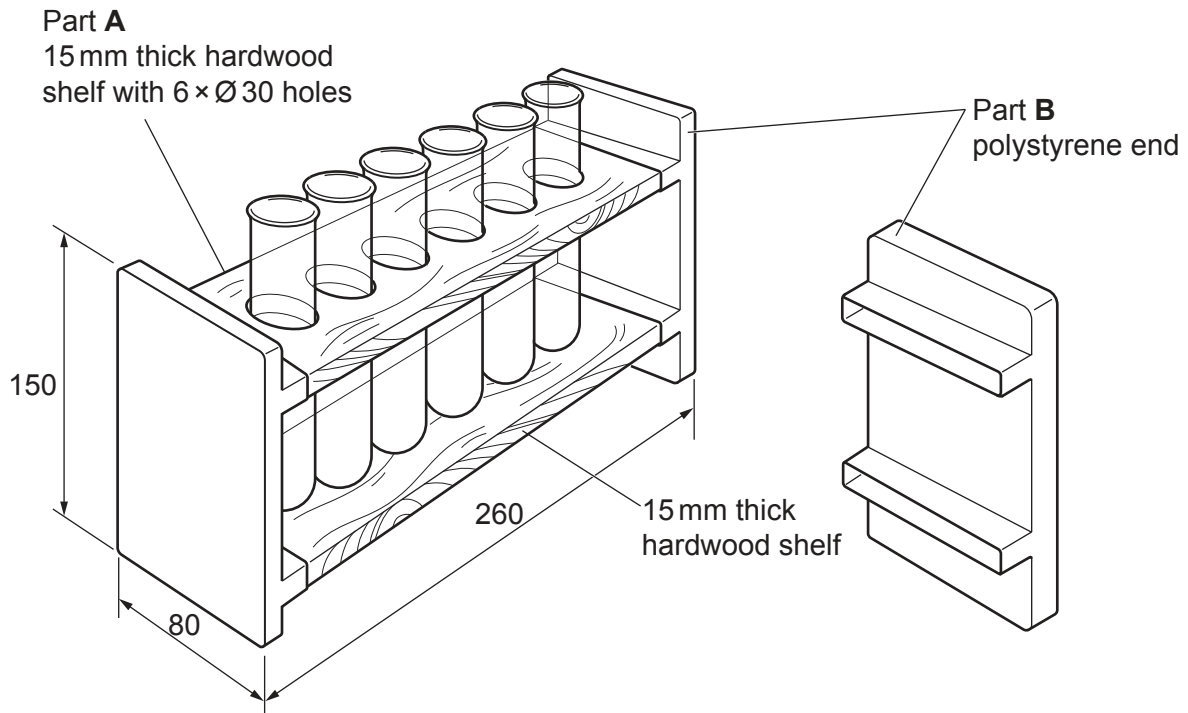

Fig. 1.1
- 1 Fig. 1.1 gives details of a test tube rack.